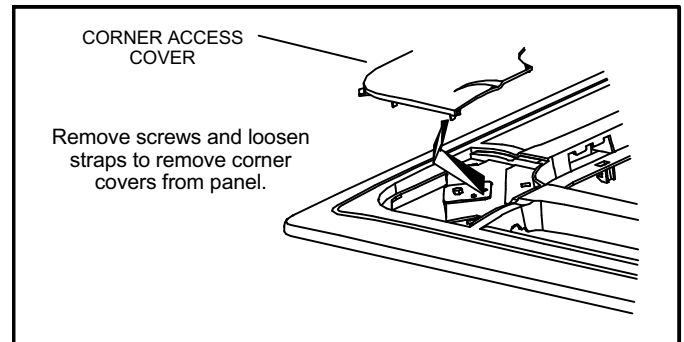

Figure 14. Remove Corner Covers
- 3 - Remove access covers from each corner of the panel. See figure 14.